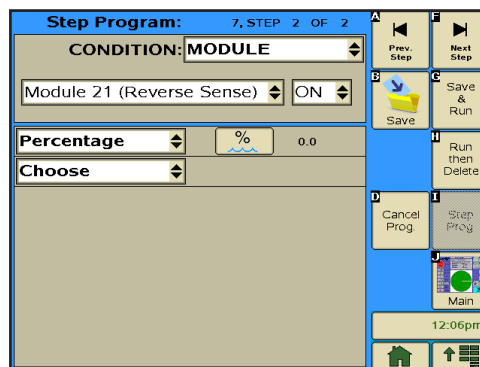

Figure 140-2
8. Program the module condition for this step. Refer to Figure 140-2.